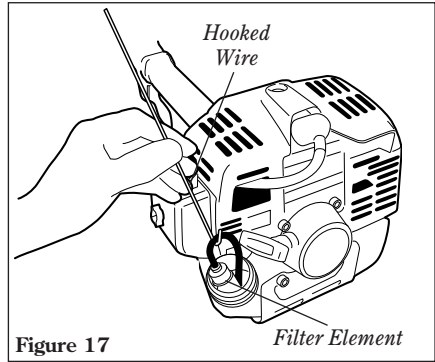

Figure 17
- Use a hooked wire to extract the fuel filter from inside the fuel tank. See Figure 17. Remove and replace the filter element. Before reinstalling the filter, inspect the condition of the fuel line. If damage or deterioration are noted, the M231 Multipurpose Tool Carrier should be removed from service until it can be inspected by a Shindaiwa-trained service technician.